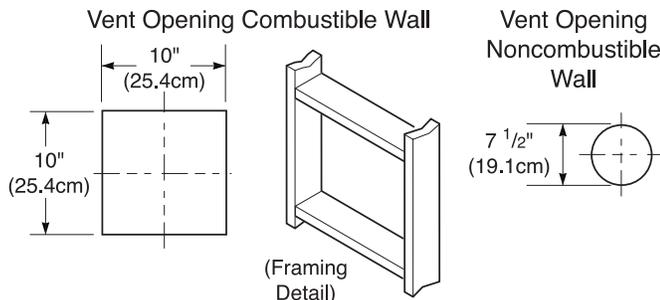
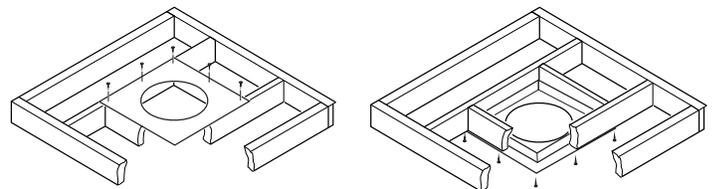

Figure 24 - Vent Opening Requirements
Figure 32 - Installing Firestop
For two-story applications, firestops are required at each floor level (see Figure 32, page 16). If an offset is needed in the attic, additional pipe and elbows will be required.
- Attach vent pipe assembly to the burner system. Set stove in front of its permanent location to insure minimum clearances. Mark the wall for a 10" (25.4cm) square hole (for noncombustible material such as masonry block or concrete, a 7 1/2" (19.1cm) diameter hole is acceptable). See Figure 24. The center of the hole should line up with the center-line of the horizontal rigid vent pipe. Cut a 10" x 10" (25.4cm x 25.4cm) square hole through combustible exterior wall (7 1/2" [19.1cm] diameter hole if noncombustible). Frame as necessary (see Figure 24).
1. Cut a 10" (25.4cm) square hole in the ceiling using the locating hole as a center point. The opening should be framed to 10"x10" (25.4cm x 25.4cm) inside dimensions, as shown in Figure 24 on page 14 using framing lumber the same size as the ceiling joists. If the area above the ceiling is an insulated ceiling or a room, nail firestop from the top side. This prevents loose insulation from falling into the required clearance space. Otherwise, install firestop below the framed hole. The firestop should be installed with no less than three nails per side (see Figure 32).
3. Cut a hole in the roof using the locating hole as a center point. (Cover any exposed open vent pipes before cutting hole in roof.) The 10"x10" (25.4cm x 25.4cm) hole must be measured on the horizontal; actual length may be larger depending on the pitch of the roof. There must be a 1" clearance from the vent pipe to combustible materials. Frame the opening as shown in Figure 24 on page 14.